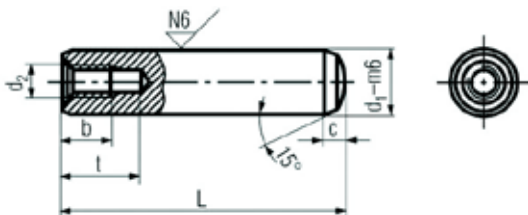

Fig. 8.2
- Ü Loosen all fastening screws and remove the toothed rack with a suitable tool (see example, Fig. 8.2) out of the pinned fitting.